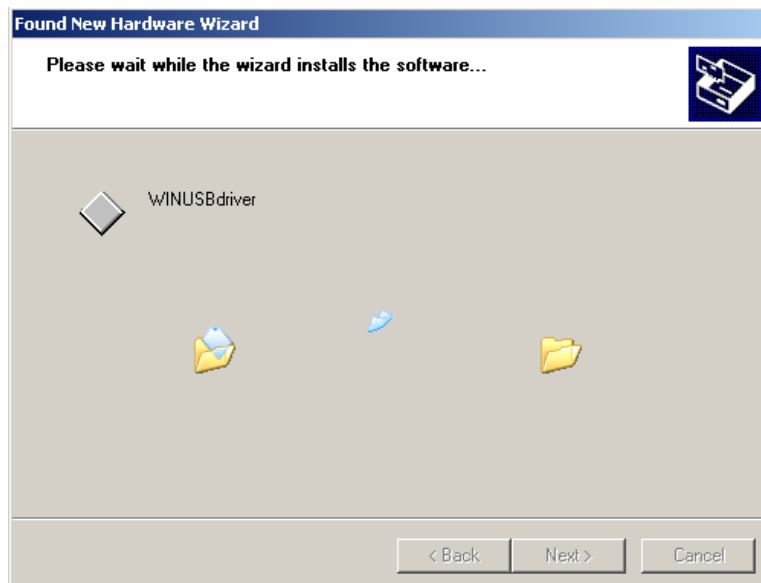
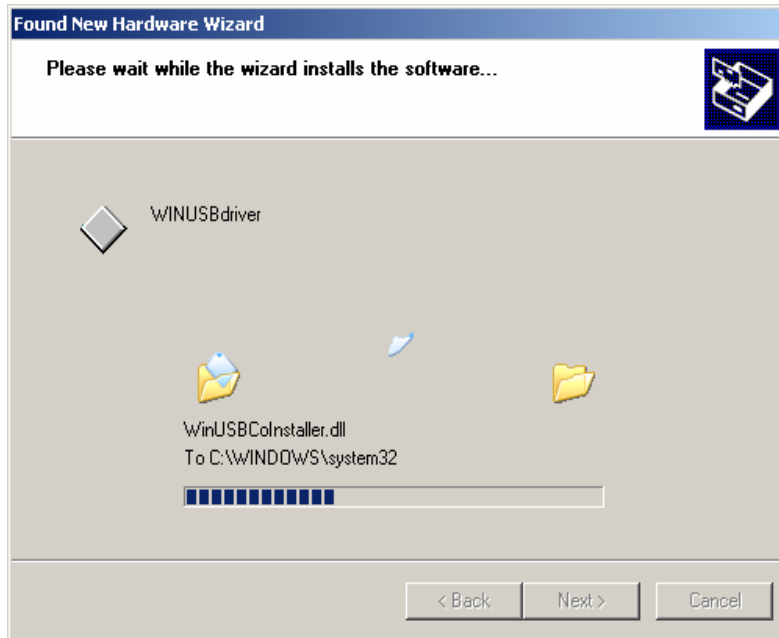

Figure 4. Found New Hardware Wizard - Part 3
Figure 5. Found New Hardware Wizard - Part 3
11. The INF and SYS files are then installed. See Figure 4 and Figure 5: